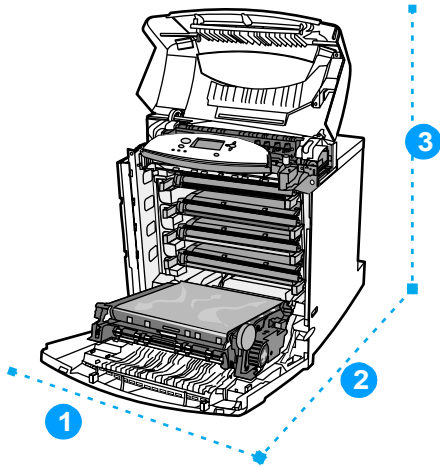

Figure 1-4 Space requirements (printer only)
- walls or other objects. There must be enough space around the printer for proper access and ventilation. See Figure 1-4 on page 18.